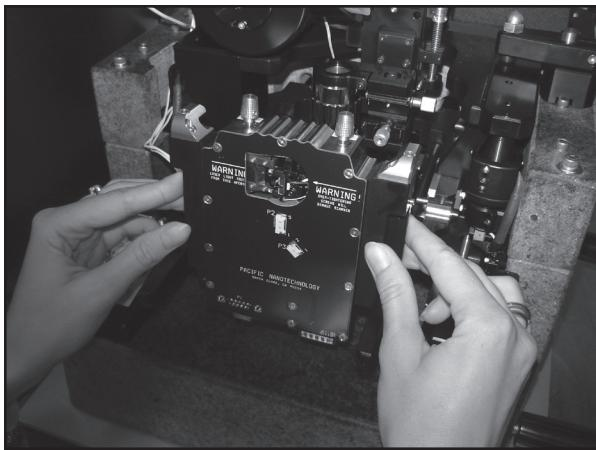

Figure 2.12: Rotate the Scanner Head
5. Carefully rotate the scanner head up about 90 degrees, as shown in Figure 2.12.